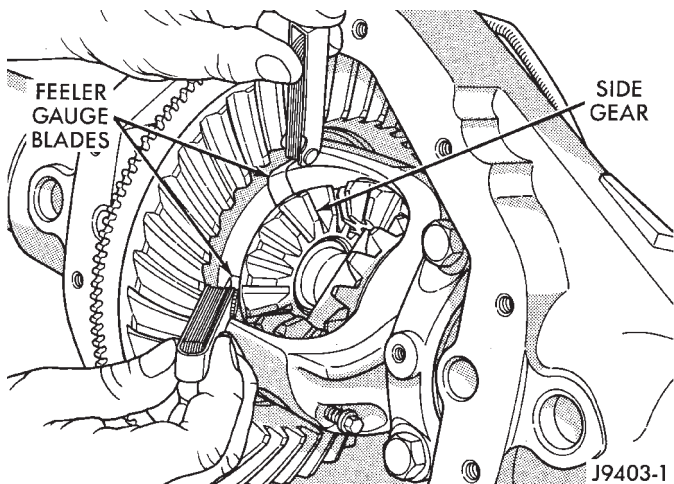

Fig. 60 Side Gear Clearance Measurement
(1) Install the axle shafts and C-clip locks and pinion mate shaft.
(2) Measure each side gear clearance. Insert a matched pair of feeler gauge blades between the gear and differential housing on opposite sides of the hub (Fig. 60).
(3) If side gear clearances is no more than 0.005 inch. Determine if the shaft is contacting the pinion gear mate shaft. **Do not remove the feeler gauges, inspect the axle shaft with the feeler gauge inserted behind the side gear.** If the end of the axle shaft is not contacting the pinion gear mate shaft, the side gear clearance is acceptable.